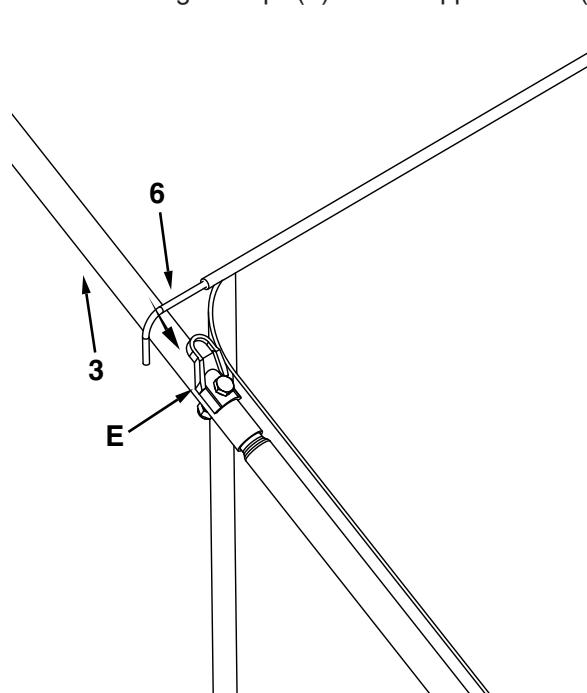

Figure 8
STEP 8: (SEE FIGURE 8)
- Place the upper hopper bag and bent bag rod (6) into the bag rod clips (E) on the hopper handle (3).